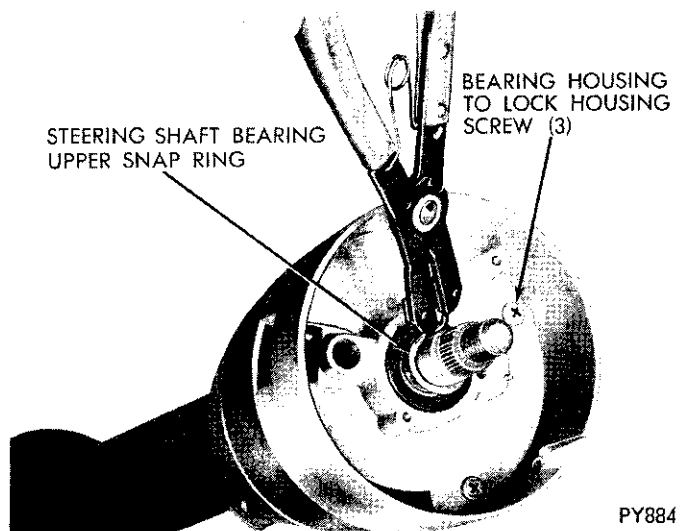

Fig. 6—Steering Shaft Bearing Upper Snap Ring
- (7) Remove snap ring from upper end of steering shaft (Fig. 6).